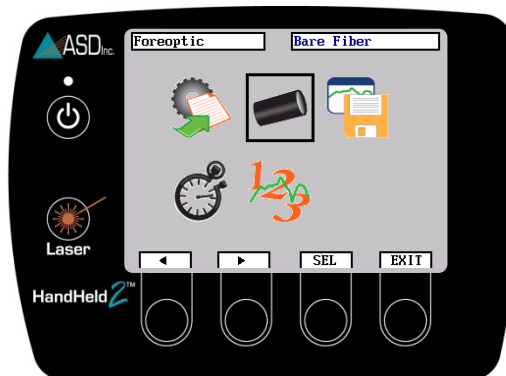

Figure 2-17: Navigate to Foreoptic Menu
- Step 1 Navigate to the foreoptic icon by pressing the arrow buttons, and press SEL to select icon (Figure 2-17).